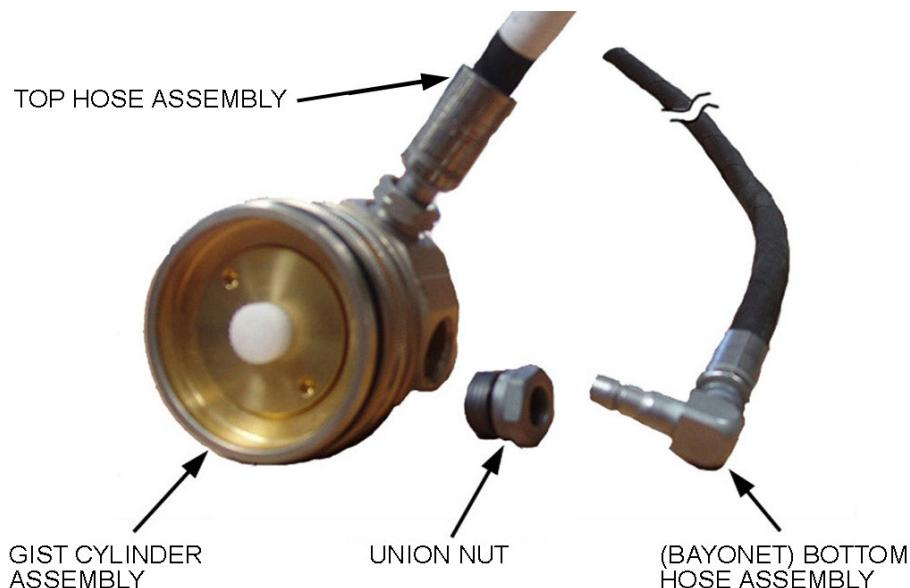

FIGURE 05
4. Parts required (FIGURE 05)
5.1.6 Insert the union nut/hose assembly into the appropriate threaded outlet port of the cylinder valve, (FIGURE 05).
5.1.8 The new hose assembly c/w double bayonet fittings is shown in, (FIGURE 05). It is connected to the cylinder valve via a new Union nut c/w O-ring.